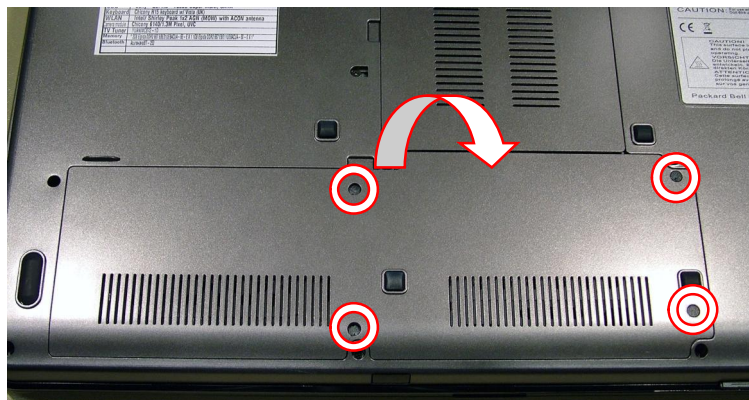

Fig. 2 Removing hard disk drive compartment cover.
2. Lift the cover upwards from the back. There are four tabs holding the cover in place on the front. Raise the cover until you can remove it from the casing (see Fig. 2 on page 4).